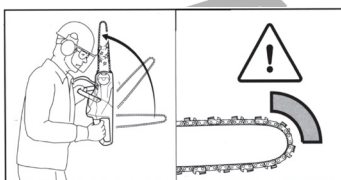

Fig. 2
- Put the chain into the groove of the guide and refer to the arrow mark on the main body of the chain saw for the direction of the blade edge, then insert the guide fixed hole into the guide fixed column as shown in figure 2. (Note: Both sides of guide can be installed)
- Tighten the lid of the oil tank and squeeze the soft lid once before use, as shown in figure 2.
- Hold the handle with your hand, press the lock button with your thumb and press the trigger with your index finger, the machine starts normally. Figure 2.